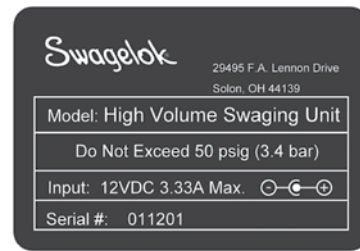

Fig. 2 Rating Label
3. Record the model number and serial number from the rating label on the back of the unit for your reference. Fig. 2.